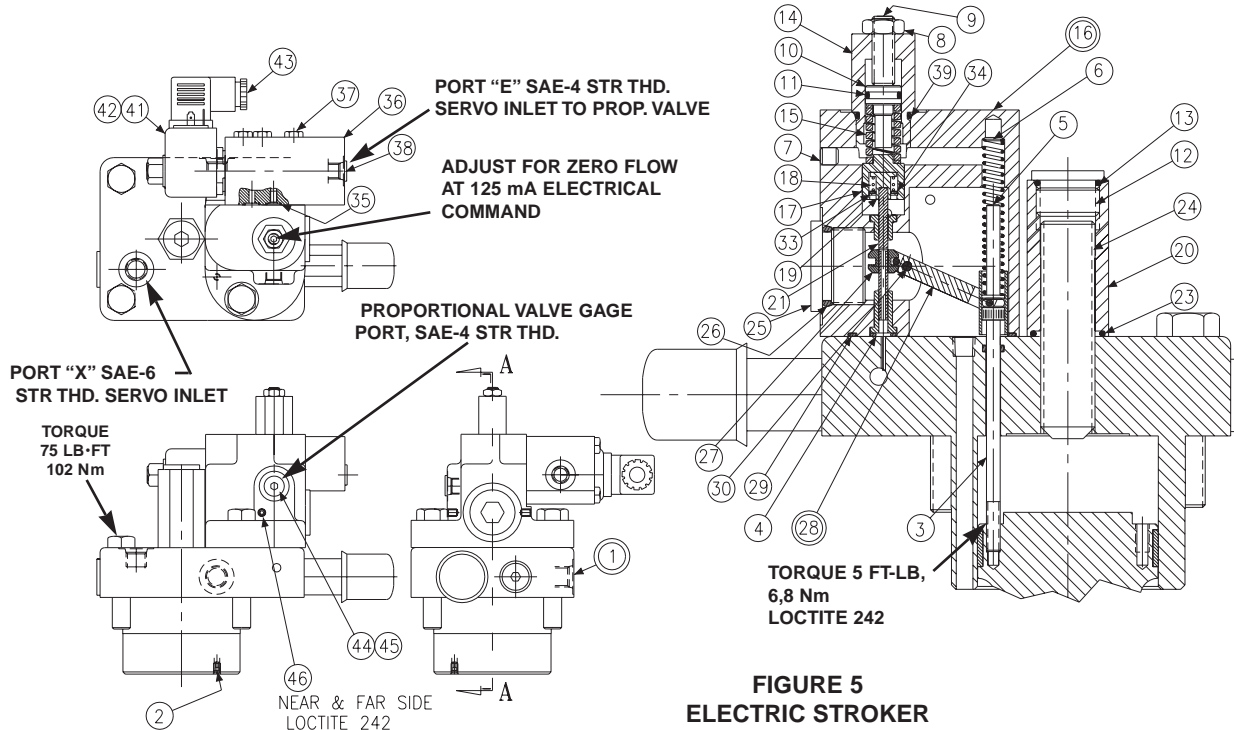
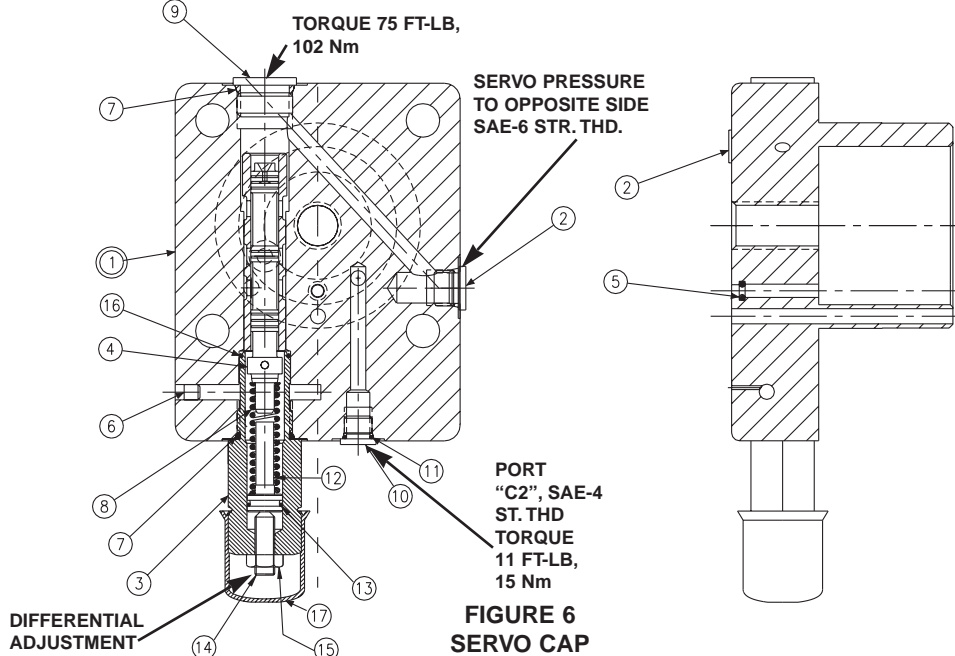

FIGURE 5
FIGURE 6
1. **See Figure 5.** Remove 3 screws (37) holding block (36) to body (16).
2. Remove 2 screws holding body (16) to cap assembly (1).
3. Remove all parts from body (16) except pin (30) and arm assembly (28). It is not necessary to remove these parts unless broken or worn. Examine parts for wear or damage.
4. Remove screw (3). Examine head for excessive wear, and body for smooth sealing surface with O-ring.
5. **See Figure 6.** Remove tube lines to cap assembly.
7. Remove cap assembly (1). Remove plug (3) with attached parts. Remove spring (8) and spool (4).
8. Do not remove sleeve in body (1). Sleeve is pressed into cap and finished to size. If sleeve or cap is worn, replace the cap-sleeve assembly (1).
9. Remove screw (14) and nut (15). Push a rod through the cap to remove the retainer (12).
1. **See Figure 6.** Install Avseal plug (6) in cap.
2. Install spool (4) into bore as shown. Install spring (8) over end of spool.
3. Install O-ring (13) on spring retainer (12). Install retainer (12), screw (14), and nut (15) in plug (3).
4. Install O-rings (7) and (16) on plug (3). Install plugs (3) and (9) in body (1). Torque plugs to 75 lb.·ft., 102 N m. Install O-ring (8) in cap.
5. Turn screw (15) in until spring retainer (12) contacts spring (8). Turn an additional 1-1/2 turns and lock in position.
8. **See Figure 5.** Apply Loctite 242 on threads of screw (3), lubricate the shank, thread through the cap into the control piston, and torque to 5 lb.·ft., 6.78 N·m.
9. Install minimum stop screw (24) and turn clockwise to stroke pump to full volume. Measure height from control cap to top of screw (3). With control piston at full stroke, dimension for the P16 must be .45 +/- .03 in., 11,4 +/- 0,76 mm, dimension for the P09 must be .655 +/- .03 in., 16,6 +/- 0,76 mm. Back out minimum stop screw (24) till there is no contact with control piston.
10. Press dowel (30) into body (16), through the link (28), to 1/4, 6,35 mm below surface, apply Loctite hydraulic sealant[®] to threads of screws (46) and install over dowel (30).
11. Press spool (21) into retainer (19). Caution: do not use excessive force. Place spool/retainer assembly into spool (17) with spring (18) and washer (34). Secure with retaining ring (33).
12. While sleeve (27) is engaged into dowel on link (28), slide above spool assembly into bore of body (16), and through sleeve (27). Spool (21) must move freely and easily at all positions of the link (28).
13. Install proportional valve (41) in block. Torque to 20 ft.·lbs., 27 N m.
15. Assemble all other components into body (16) per above drawing. Torque the plug (12) to 75 lb.·ft., 102 N m.
16. While spring retainer is engaging clevis pin (5) under dowel of link (28), slide the other opening of spring retainer over the top of the screw (3). Attach body assembly (16) to cap (1) with two screws and torque to 75 lb.·ft., 102 N m.
2. Thread zero screw (24) so that pump is on stroke.
5. Adjust amperage (100-150 mA) to give 50 PSI, 34,5 bar reading on the proportional valve gage port. Back out zero screw (24) and adjust screw (9) until output flow is at zero stroke position. Lock both adjustments in place.
7. If pump fails to go towards full stroke, or fails to go towards zero stroke, differential pressure may be improperly adjusted. Re-adjust the screw (15 figure 6) out to go towards full or in to go towards zero flow.
PARTS LIST FOR FIGURE 5
PARTS LIST FOR FIGURE 6